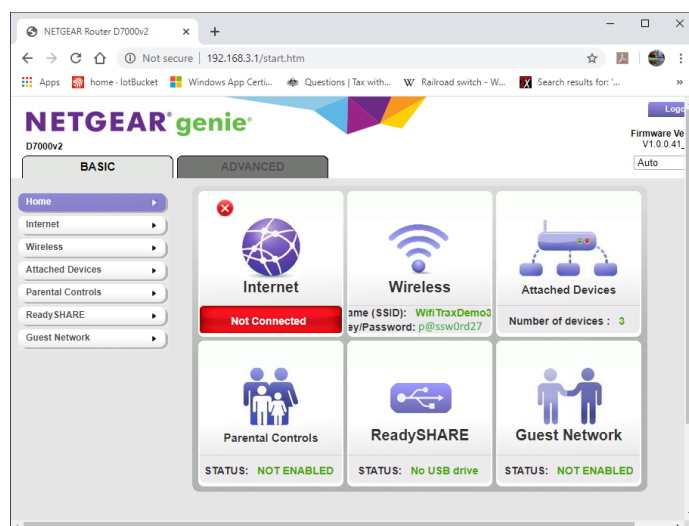

Figure 53 A typical router admin page
- (6) Once you have given the credentials, you will see the admin page. A typical one is shown in Figure 53. Find the "Attached Devices" option and click on it.